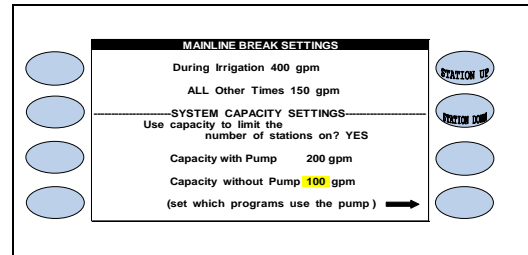

Figure 4.12
This will open up the portion of the screen dealing with Capacity with or without Pump (Figure 4.12).
8.  If you did not select **SET WHICH PROGRAMS TO USE PUMP** in the pump section of this manual then press the **SET WHICH PROGRAMS TO USE THE PUMP** Menu key (Figure 4.12).